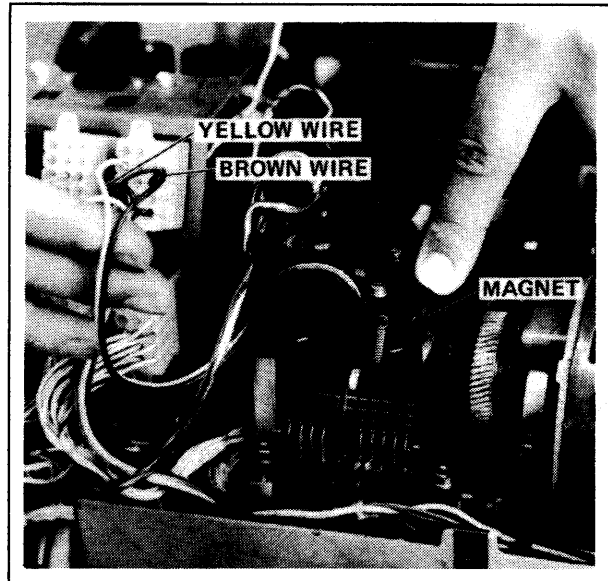

Figure D-7. Distributor Trip Magnet
2. Disconnect brown wire shown in Figure D-7 from plastic connector. Connect this brown wire to terminal 12 on mode switch. (Brown wire will have to be extended.)